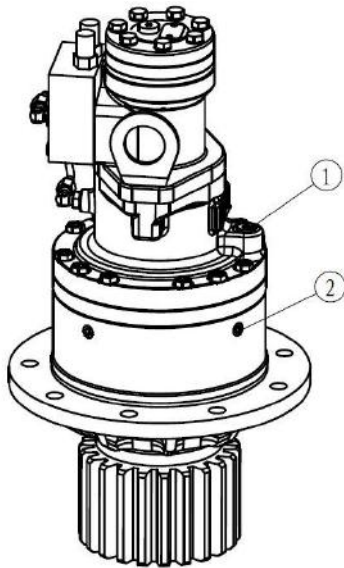

Figure 1-4 Slewing deceleration
- Remove the plug on the reducer side and check the oil level, as shown in Figure 1-4, 2.